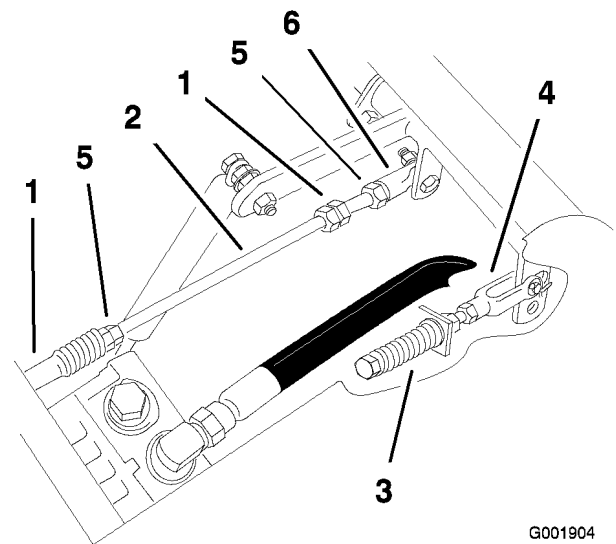

Figure 75
1. Loosen the locknuts at the ball joints on the pump control rod (Figure 75).
3. Adjust the pump rod length by rotating double nuts on rod, in the appropriate direction, until wheel is still or slightly creeps in reverse (Figure 75).
6. Tighten the locknuts at the ball joints (Figure 75).